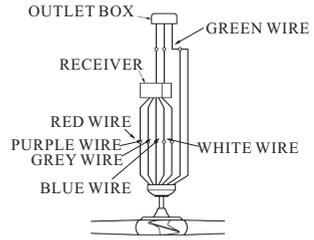

FIG. 7
2. Connect the red wire from receiver to the red wire from fan with wire nut. Connect the purple wire from receiver to the purple wire from fan with wire nut. Connect the blue wire from receiver to the blue wire from fan with wire nut. Connect the grey wire from receiver to the grey wire from fan with wire nut. Connect the white wire from receiver to the white wire from fan with wire nut. Connect the green wire from ceiling, and green wire from hanger bracket with green wire from downrod ball with wire nut. (see Fig. 7)